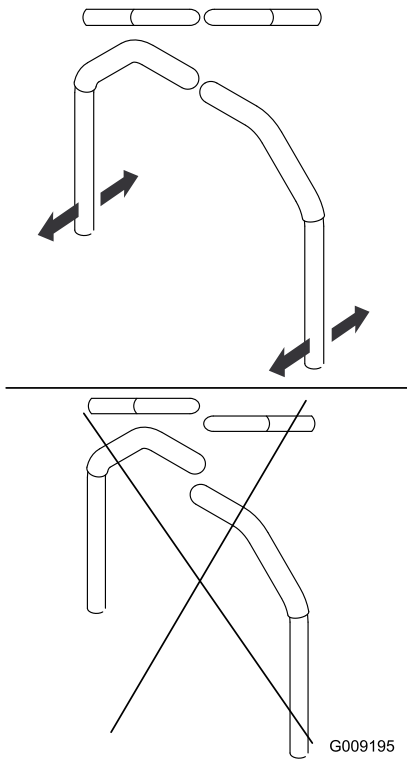

Figure 50
7. Align the levers in the front-to-rear position by bringing the levers together to the NEUTRAL position, and slide them until they are aligned, then tighten the bolts (Figure 50).